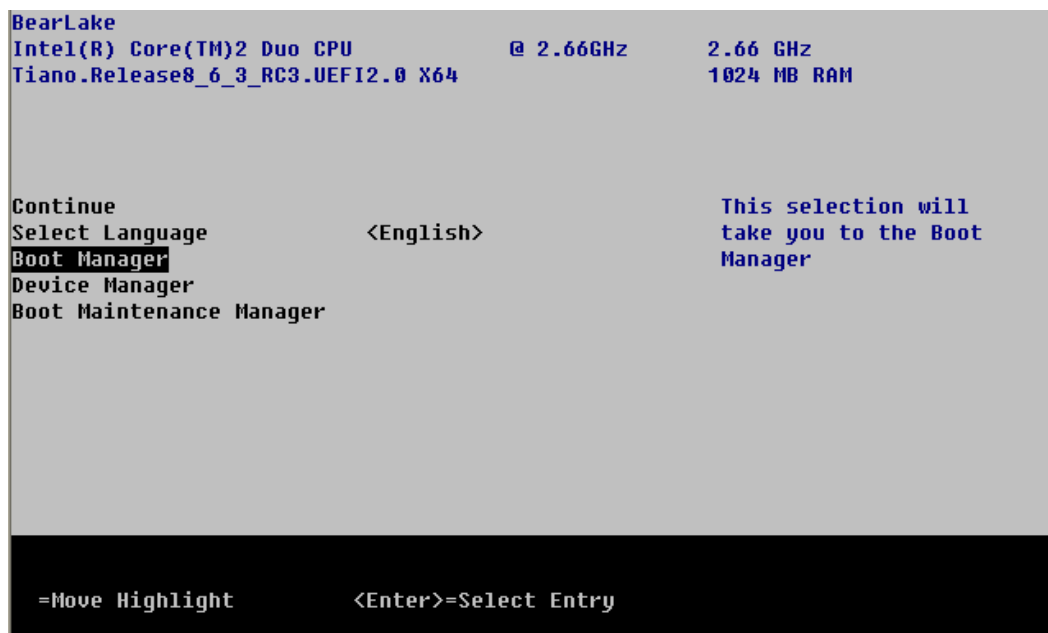

Figure 1 Select Boot Manager
1. When the target machine starts, select the menu Boot Manager as shown in Figure 1.